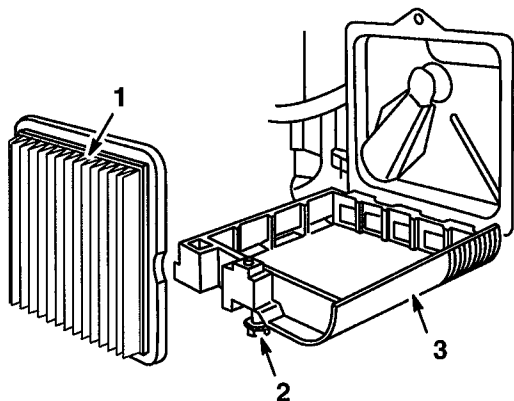

Figure 16
2. Remove screw securing air cleaner cover to engine. Tilt cover down and clean thoroughly (Fig. 16).